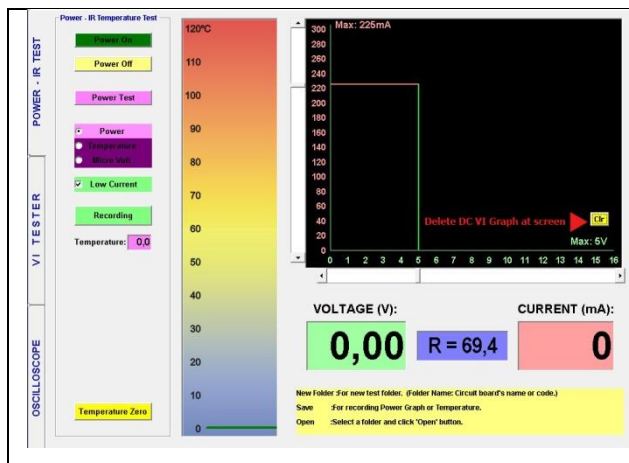

Figure 22: Deleting the DC VI Graph
5. The "Clr" Button is clicked to delete the "DC Voltage - Current Graph" from the screen. (Figure 22)